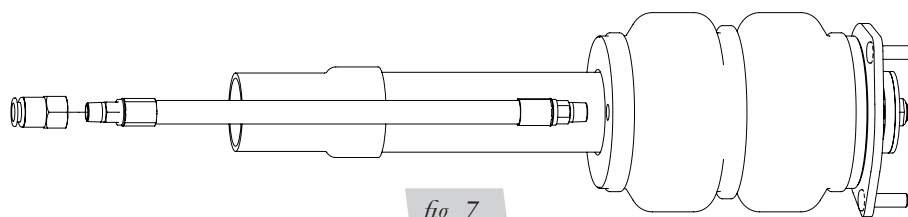

fig. 7
1. Prior to installing the strut, attach the braided line provided to the threaded port at the bottom of the air spring (fig. 7). Seal with Teflon tape or thread sealant. Seal and thread supplied fitting to the end of braided hose.